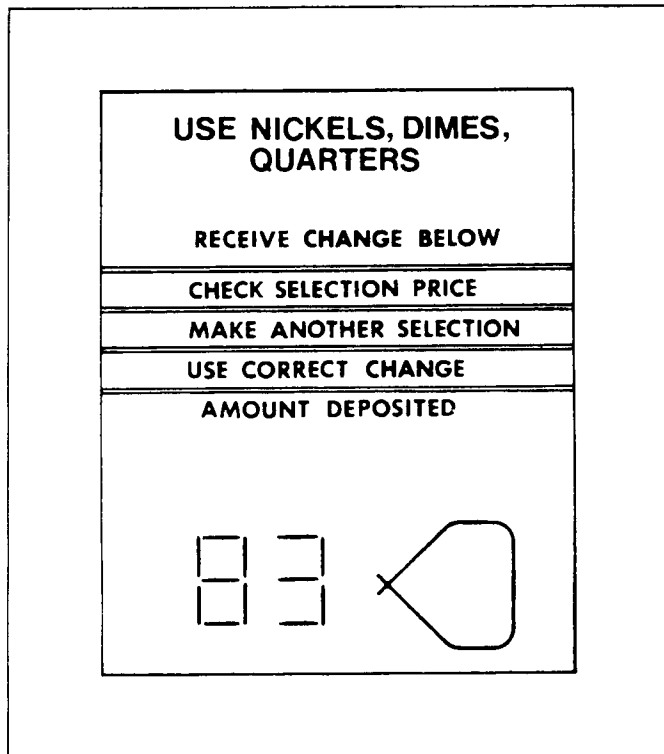

Figure 21. SHOWING SELECTION B3 NOT OPERATING
- Press button 14 on the selection panel. If any of the motors are not functioning (jammed, bad switch, bad harness, etc.) the first non-functioning motor in the series will be displayed on the selection panel display (Figure 21).